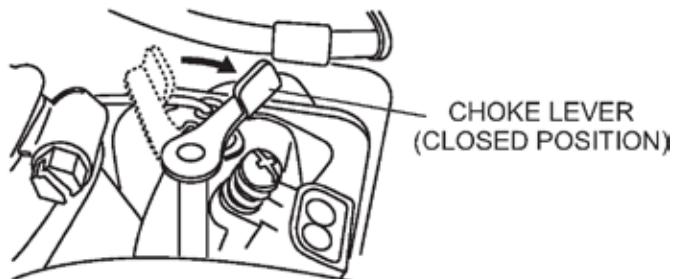

Figure 11. Choke Lever
5. If engine fails to start, move the choke lever (Figure 11) to the half open position to avoid flooding.